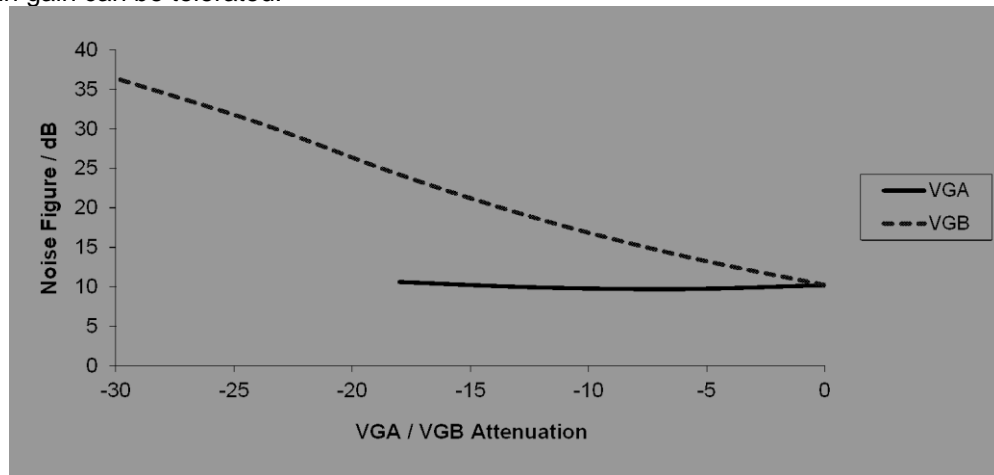

Figure 17 Variation in CMX972 Demodulator Noise Figure with VGA/VGB Control
The control of gain using VGA and VGB has an impact on the performance of the CMX972 demodulator section. The variation in noise figure (NF) is straightforward, with the RF/IF gain control (VGB) having a direct impact on NF but, due to the gain before the I/Q section, VGA has little impact on NF (see Figure 17). The variation of intermodulation (IMD) is more complex, as shown in Figure 18, where performance is characterised by 'Input Third Order Intercept Point' (IIP3). At maximum gain IIP3 is at a minimum and as would be expected, the IIP3 increases as the RF/IF gain is reduced (VGB). The improvement plateaus beyond the -18dB gain setting as the input stages limit performance at this level. Reduction in gain with VGA (I/Q gain control) also has a positive effect on IIP3. This is perhaps less intuitive but indicates that the intermodulation performance of the CMX972 demodulator chain is dominated by the output stages rather than RF/IF or mixer stages. Thus -6dB or even -12dB VGA gain control settings can be used to achieve improved IMD performance for negligible change in noise figure (Figure 17), as long as the reduction in gain can be tolerated.